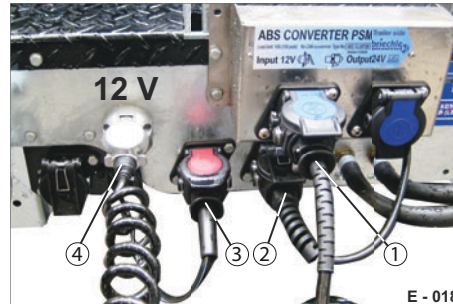

Fig. 13 Connection for 12 V operation
- Plug the ABS cable (Fig. 13/1) from the towing vehicle into the socket (Fig. 11/2) for the ABS connection.
- Plug the electrical cable (Fig. 13/4) from the towing vehicle into the socket (Fig. 11/5) for the electrical connection.